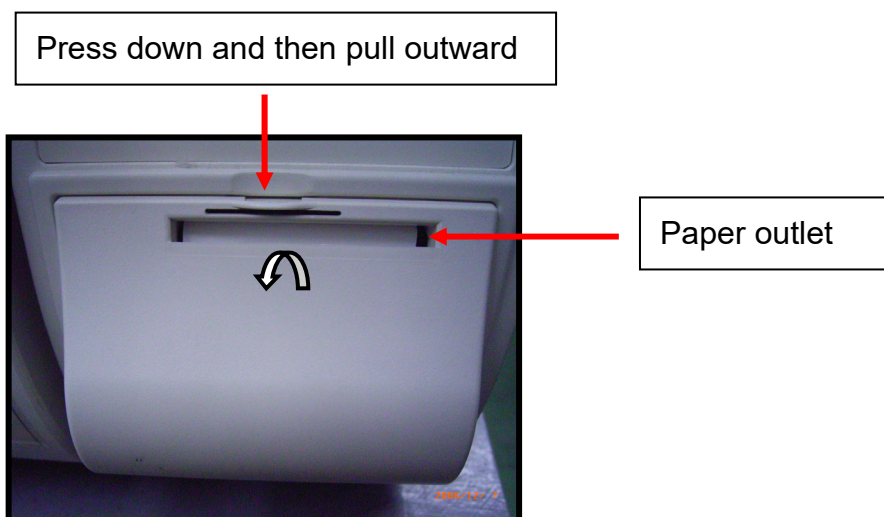

Figure 151
- B. Press down and then pull outward the rim of the printer cover (See Figure 151).